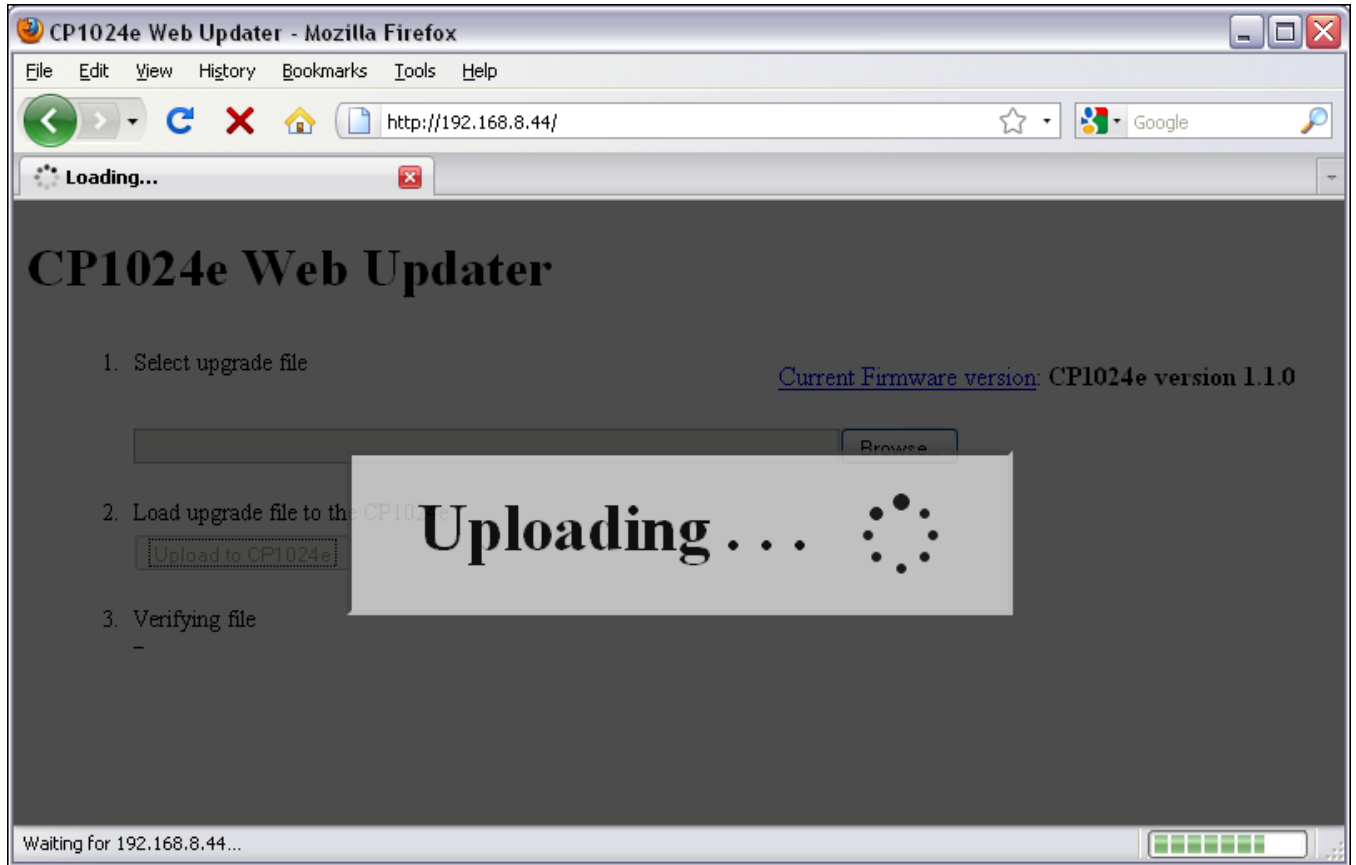

Figure 5-2: Uploading Progress Window
3. The user can load the upgrade file to the CP-1024E control panel by pressing the **Upload to CP1024e** button that appears once the file is selected. The firmware on the panel will now be updated and an uploading message will be displayed in the window as shown in Figure 5-2. Please be patient as this process may take several minutes.